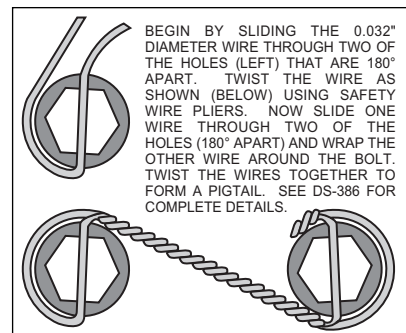

Figure 4. Safety Wire Diagram
- With the larger I.D. side of the rotor (11) facing away from the hat (12), bolt rotor (11) to hat (12) through the backside of the rotor using washers (13) and bolts (14). Torque bolts (14) to 85 in-lb. Safety wire bolts (14) using standard 0.032 inch diameter stainless steel safety wire as shown in Figure 4. Please refer to Wilwood's data sheet DS-386 (available at www.wilwood.org/ds386.pdf) for complete safety wire installation instructions.
- Slide the rotor/hat assembly over the studs (7) in the hub (8) taking care to align the small countersunk holes in the hat (12) with the small threaded holes in the hub (8). Install three flat head socket screws (15) through the small holes in the hat (12) and torque to 85 in-lb.
- Pack the small outer bearing cone (16) with high temperature disc brake bearing grease and install into front of hub (8). Slide the hub/rotor assembly (8 and 11) with outer bearing cone (16) onto the spindle. Secure using spindle washer (17), stock adjusting nut and nut locking device. Adjust bearings per Original Equipment Manufacturer (OEM) specifications.
- Install the dust cap (18) and o-ring (19) onto the hub (8). Friction created by the o-ring (19) on the dust cap (18) keeps it from unscrewing.
- NOTE:** Please reference the caution statement at the beginning of the assembly instructions. With the bleed screws pointing up, mount the caliper (20) onto the caliper bracket (1) using flat washers (21), lock washers (22), bolts (23) and shim washer (21) positioned between caliper and bracket. Finger tighten. View the rotor (11) through the top opening of the caliper (20). The rotor (11) should be aligned in the center of the caliper (20). If not, adjust the caliper (20) by using 0.032 inch thick shims (21) placed between the caliper mounting bracket (1) and the caliper (20). Finger tighten and recheck alignment. Apply red *Loctite*® 271 to bolt threads (23) and torque to 47 ft-lb.
- Remove the caliper bridge spacer and bolt, then install the disc brake pads (24), then reinstall the caliper bridge spacer and bolt.